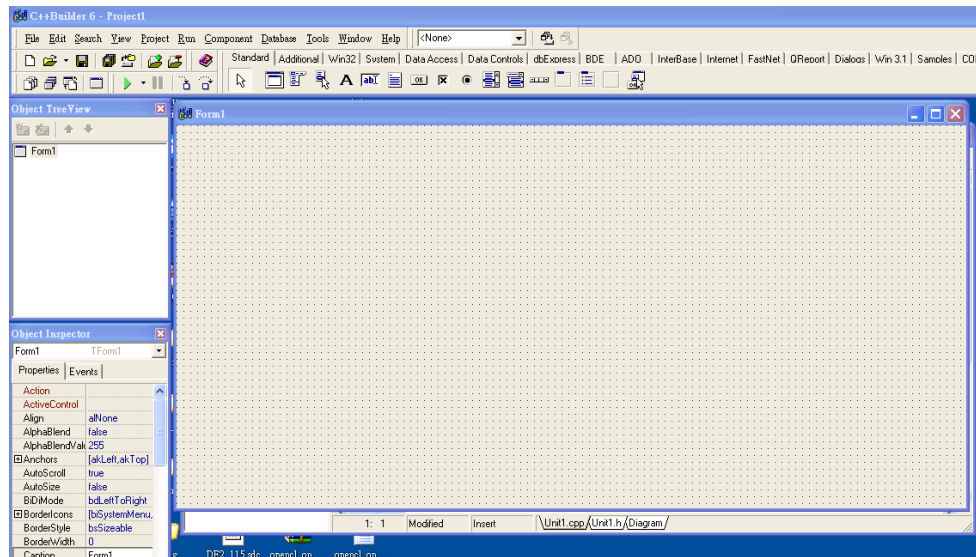

Figure 3-15 Borland C++ Builder 6.0 IDE
3. Open Borland C++ Builder, as shown in **Figure 3-15**.